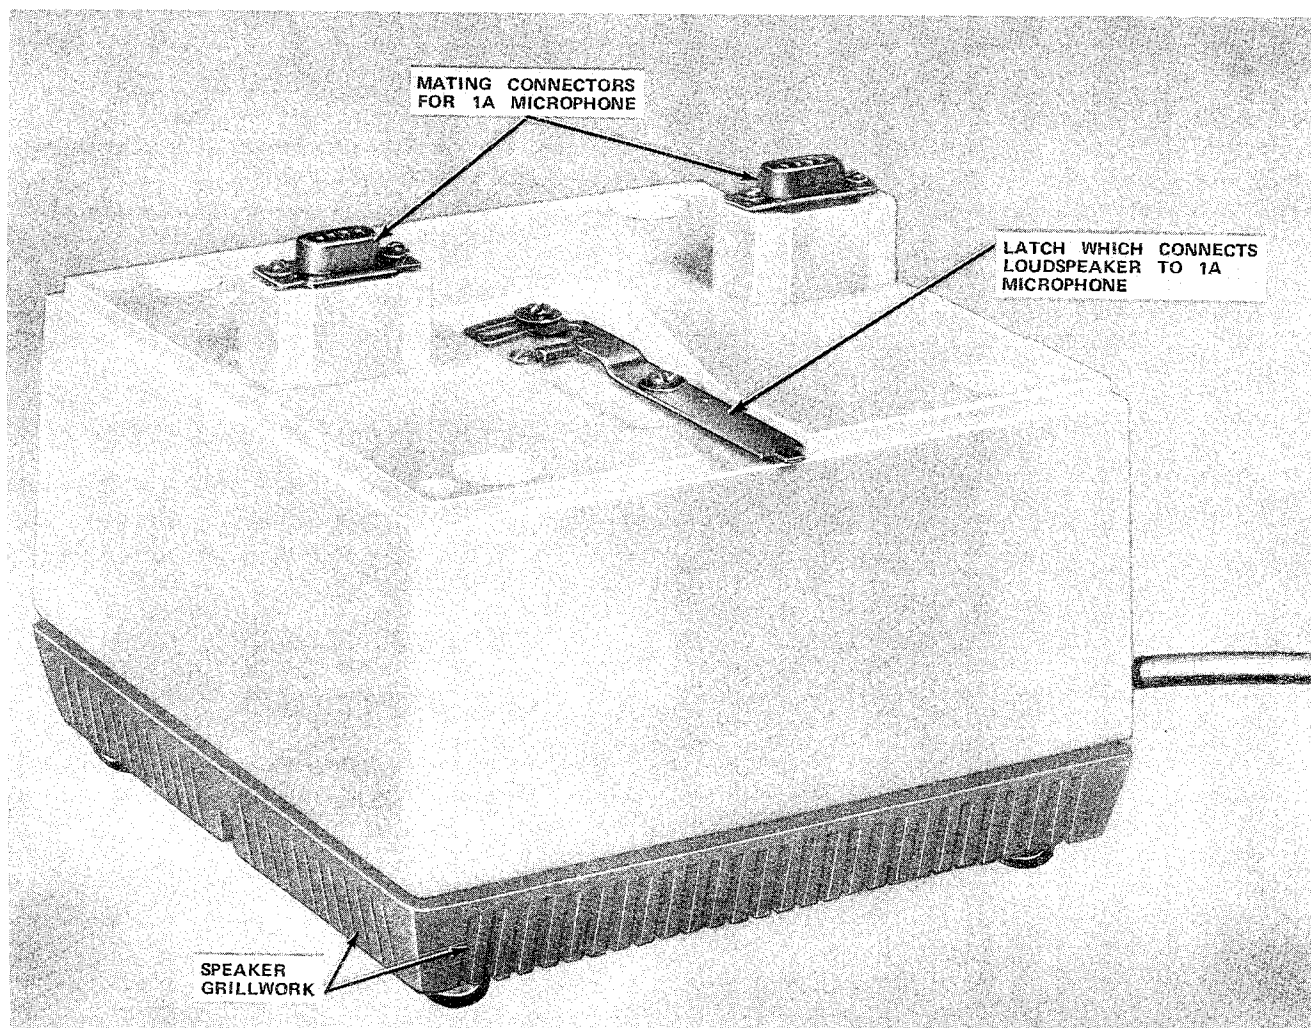
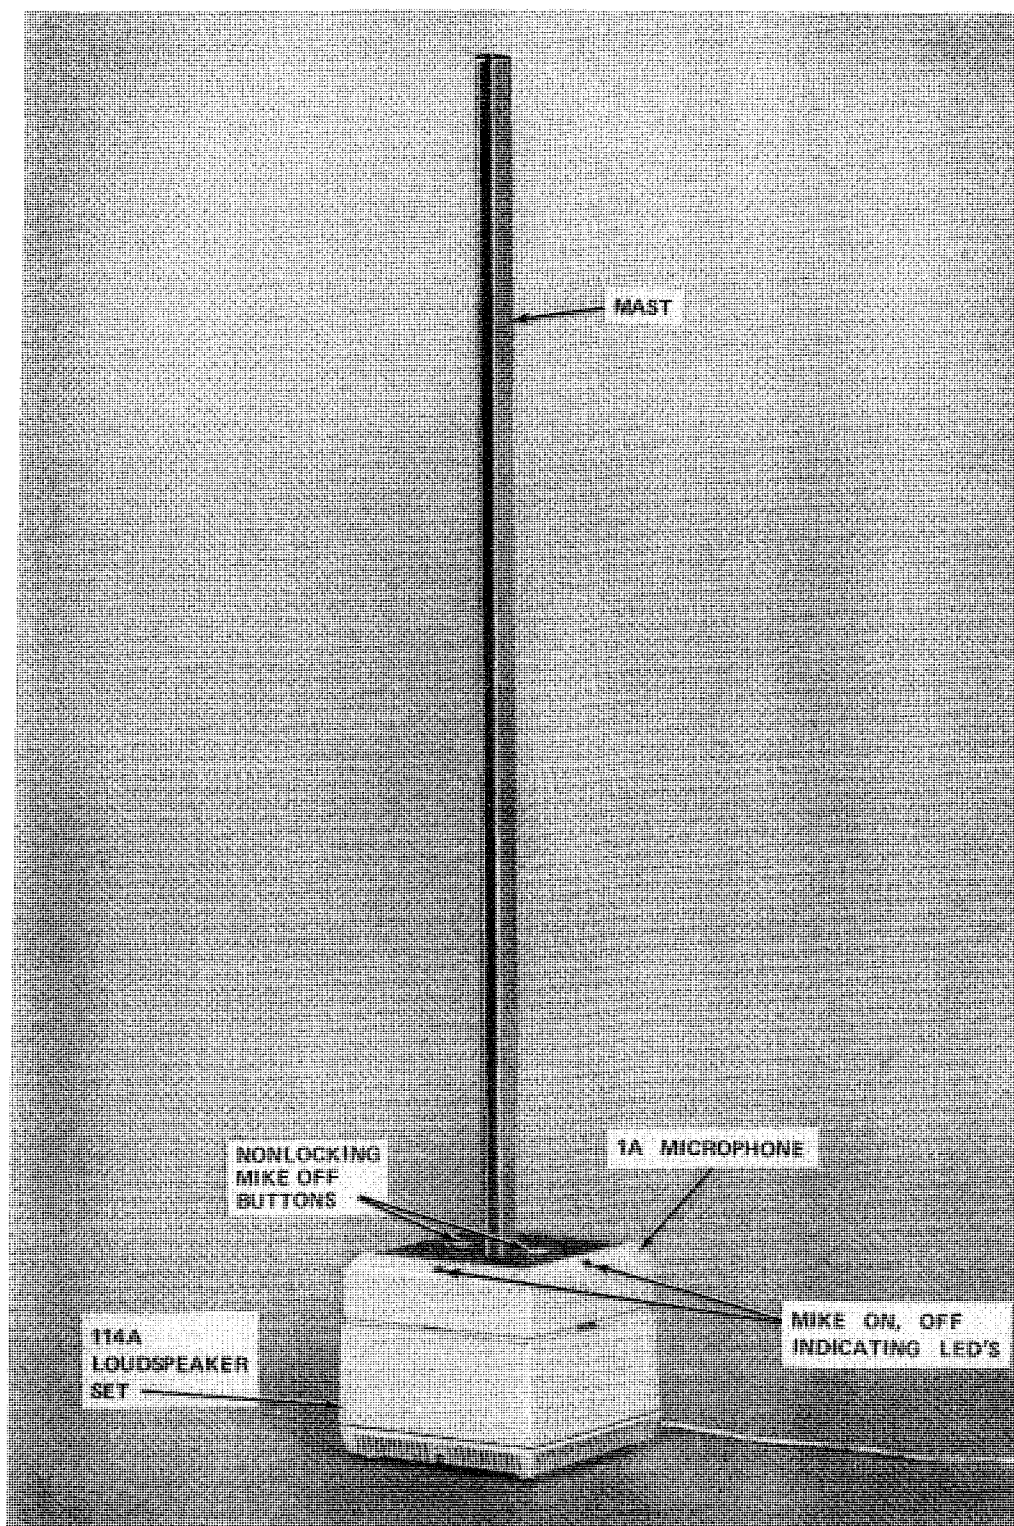

Fig. 3—114A Loudspeaker Set
Fig. 4—114A Loudspeaker Set With 1A Microphone Connected on Top
2.02 The 114A loudspeaker set (ivory with a black skirt) transmits sound in all directions (Fig. 3). The loudspeaker set mounts underneath and plugs directly into the 1A microphone, eliminating the need for a connecting cord (Fig. 4).
- (22) If the 114A loudspeaker set is used, place the 1A microphone on top of the loudspeaker mating plugs properly (Fig. 4). Check that the slide latch is engaged, locking both units together.